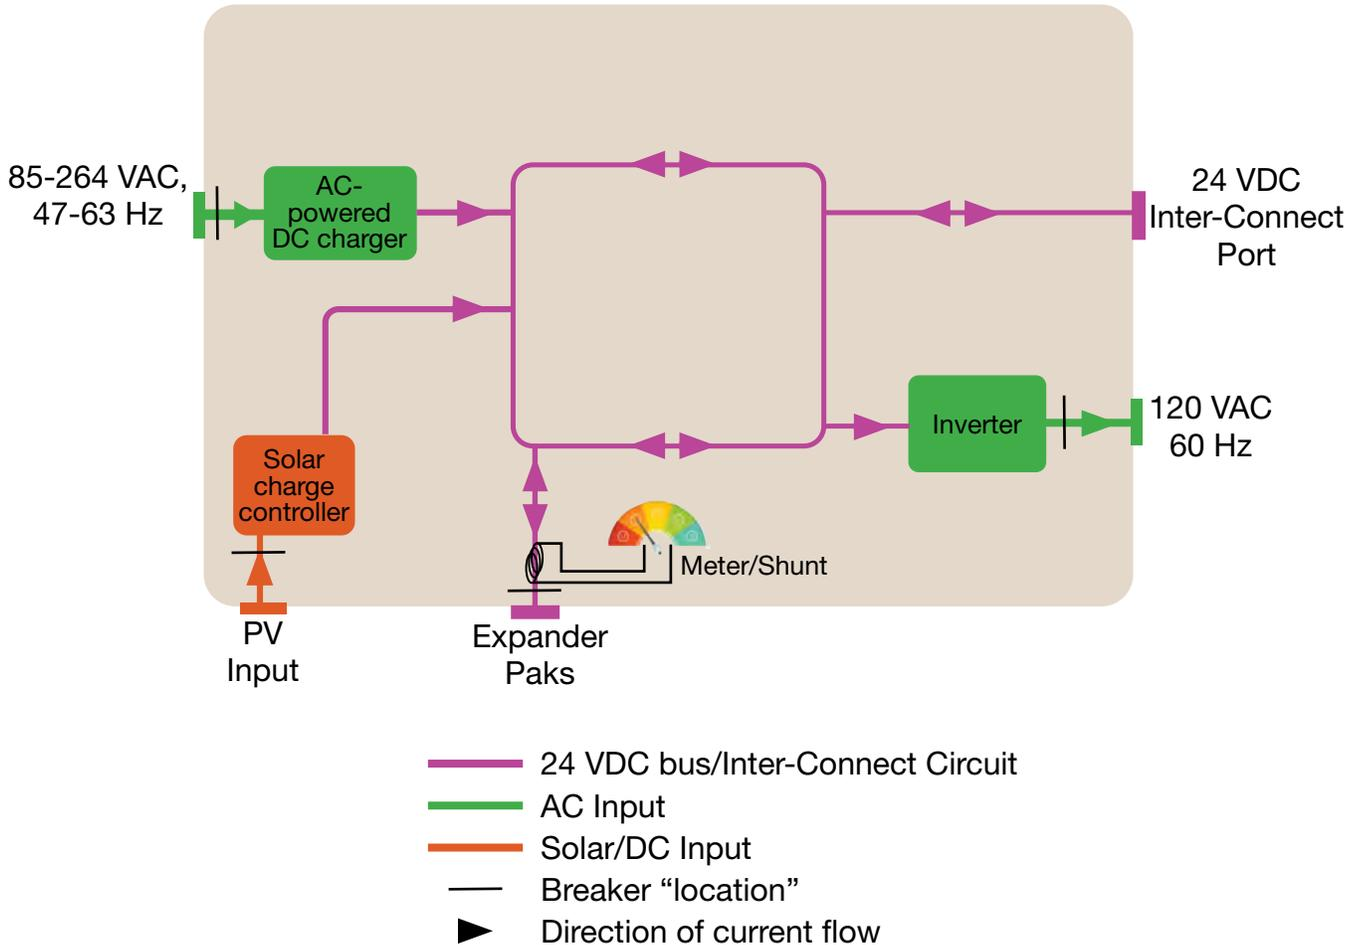

Figure 6. Schematized power flow from a top-down view of the HyPR 2000 interior.
The DC bus is effectively the nervous system of the HyPR. All HyPR functions are regulated directly or indirectly by the DC bus voltage. The DC bus voltage is functionally equivalent to the System battery voltage. Direct connections to the DC bus can be made via the two (2) Inter-Connect ports. Ports for PV, AC Input and AC output ports are indirect connections to the DC bus (Figure 6).